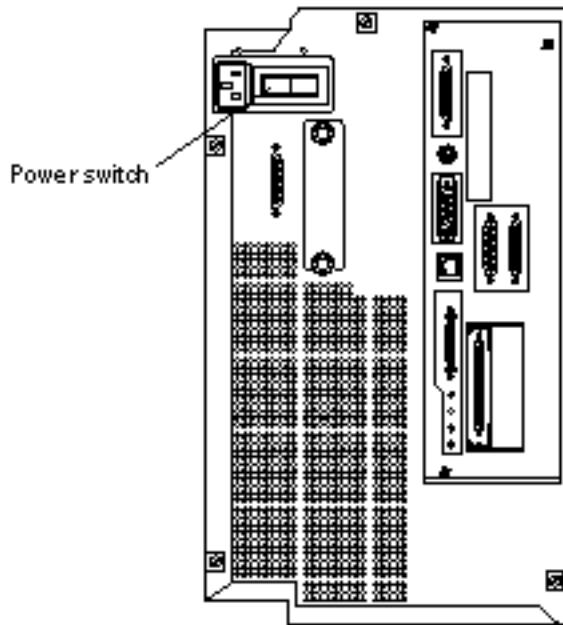

Figure 1-12 Powering On the Netra NFS 150 Server
1. Turn the power switch at the rear of the Netra 150 server to the ON () position (Figure 1-12).